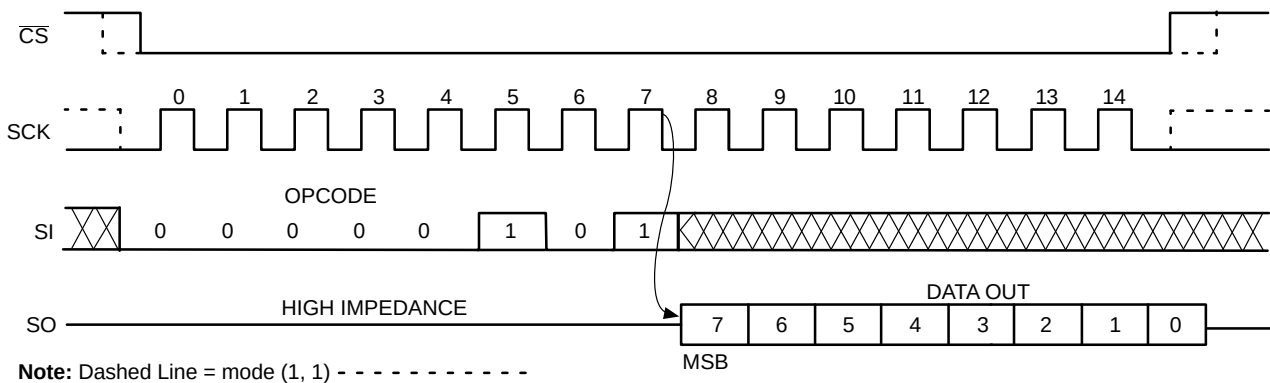

Figure 10. RDSR Timing
Reading the additional 256-byte Identification Page (IP) is achieved using the same Read command sequence as used for Read from main memory array (Figure 10). **The IPL bit from the Status Register must be set (IPL = 1) before attempting to read from the IP.** The [A7:A0] are the address significant bits that point to the data byte shifted out on the SO pin. If the $\overline{\text{CS}}$ continues to be held low, the internal address register defined by [A7:A0] bits is automatically incremented and the next data byte from the IP is shifted out. The byte address must not exceed the 256-byte page boundary.
To read the status register, the host simply sends a RDSR command. After receiving the last bit of the command, the EA2M will shift out the contents of the status register on the SO pin (Figure 10). The status register may be read at any time, including during an internal write cycle.